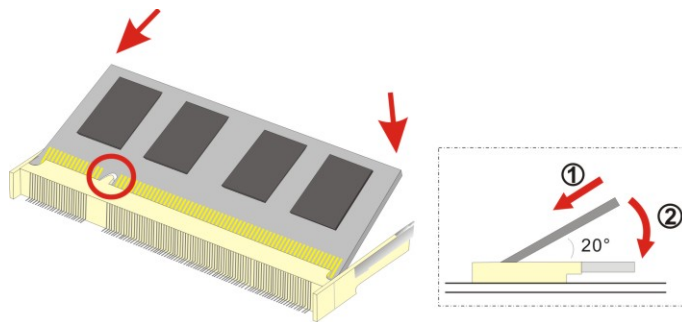

Figure 4-1: SO-DIMM Installation
To install a SO-DIMM into a SO-DIMM socket, please follow the steps below and refer to **Figure 4-1**.
- Step 3:** **Insert the SO-DIMM.** Push the SO-DIMM chip into the socket at an angle. (See **Figure 4-1**)
- Step 4:** **Open the SO-DIMM socket arms.** Gently pull the arms of the SO-DIMM socket out and push the rear of the SO-DIMM down. (See **Figure 4-1**)